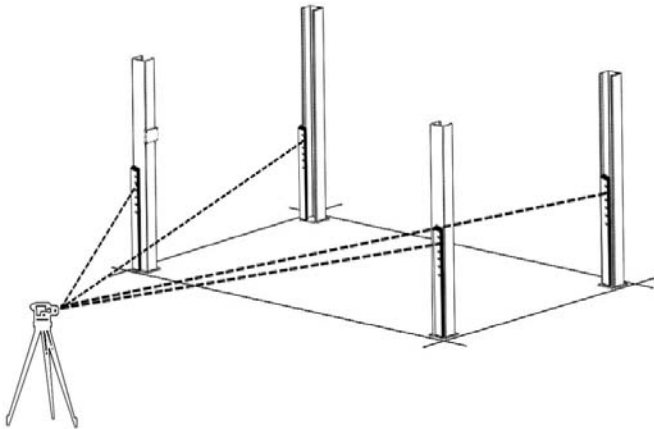

Fig. 3.2
2. To estimate the shim requirements, place a target on floor at each column position and record the readings. Find the highest of the four locations then find the difference between each of the remaining columns. This difference is the estimated amount of shim thickness that will be required at each column. (See Fig. 3.2)